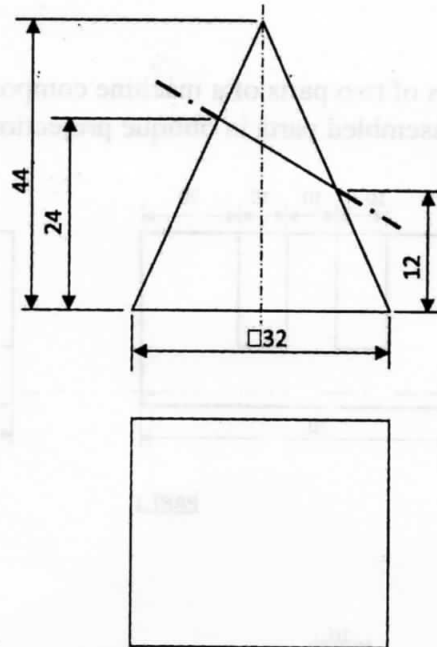

Figure 3
- 7 **Figure 3** shows the front elevation and an incomplete plan of a truncated square-based pyramid: